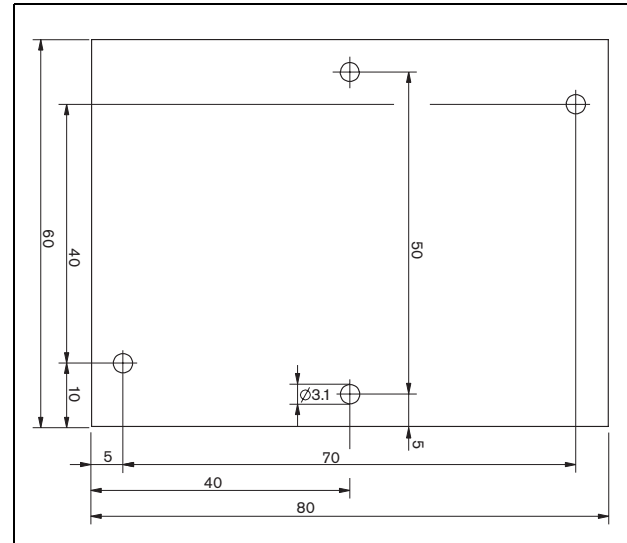

figure 9.5: Supervision-slave PCB dimensions
To install the supervision-slave in, for example, a box, use the universal brackets (LBB4446/00). Connect the board to a bracket using the middle holes (see figure 9.5).
- 1 Use the holes in the supervision-slave (see figure 9.5) to install it in a loudspeaker. The coils on the supervision-slave PCB must be kept at a distance of 30 mm or more from the loudspeaker magnet and a distance of 50 mm or more from the loudspeaker transformer, otherwise the magnetic fields can disturb the correct operation of the supervision-slave.